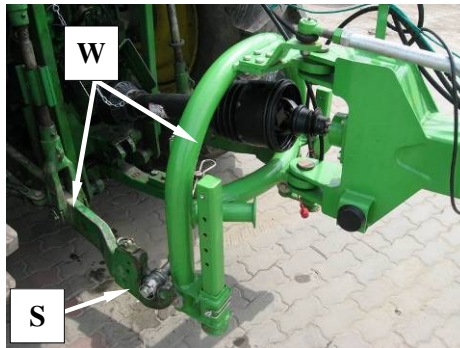

Fig. 7. Connecting the rake to the tractor
- ❑ The rake should be attached to a tractor by means of tractor's lower pull-cables as provided on **Fig. 7**. For this purpose drive the tractor at the rake's catch, and then place hangers **W** of tractor's lower pull-cables on pins **S** on the rake's linkage.